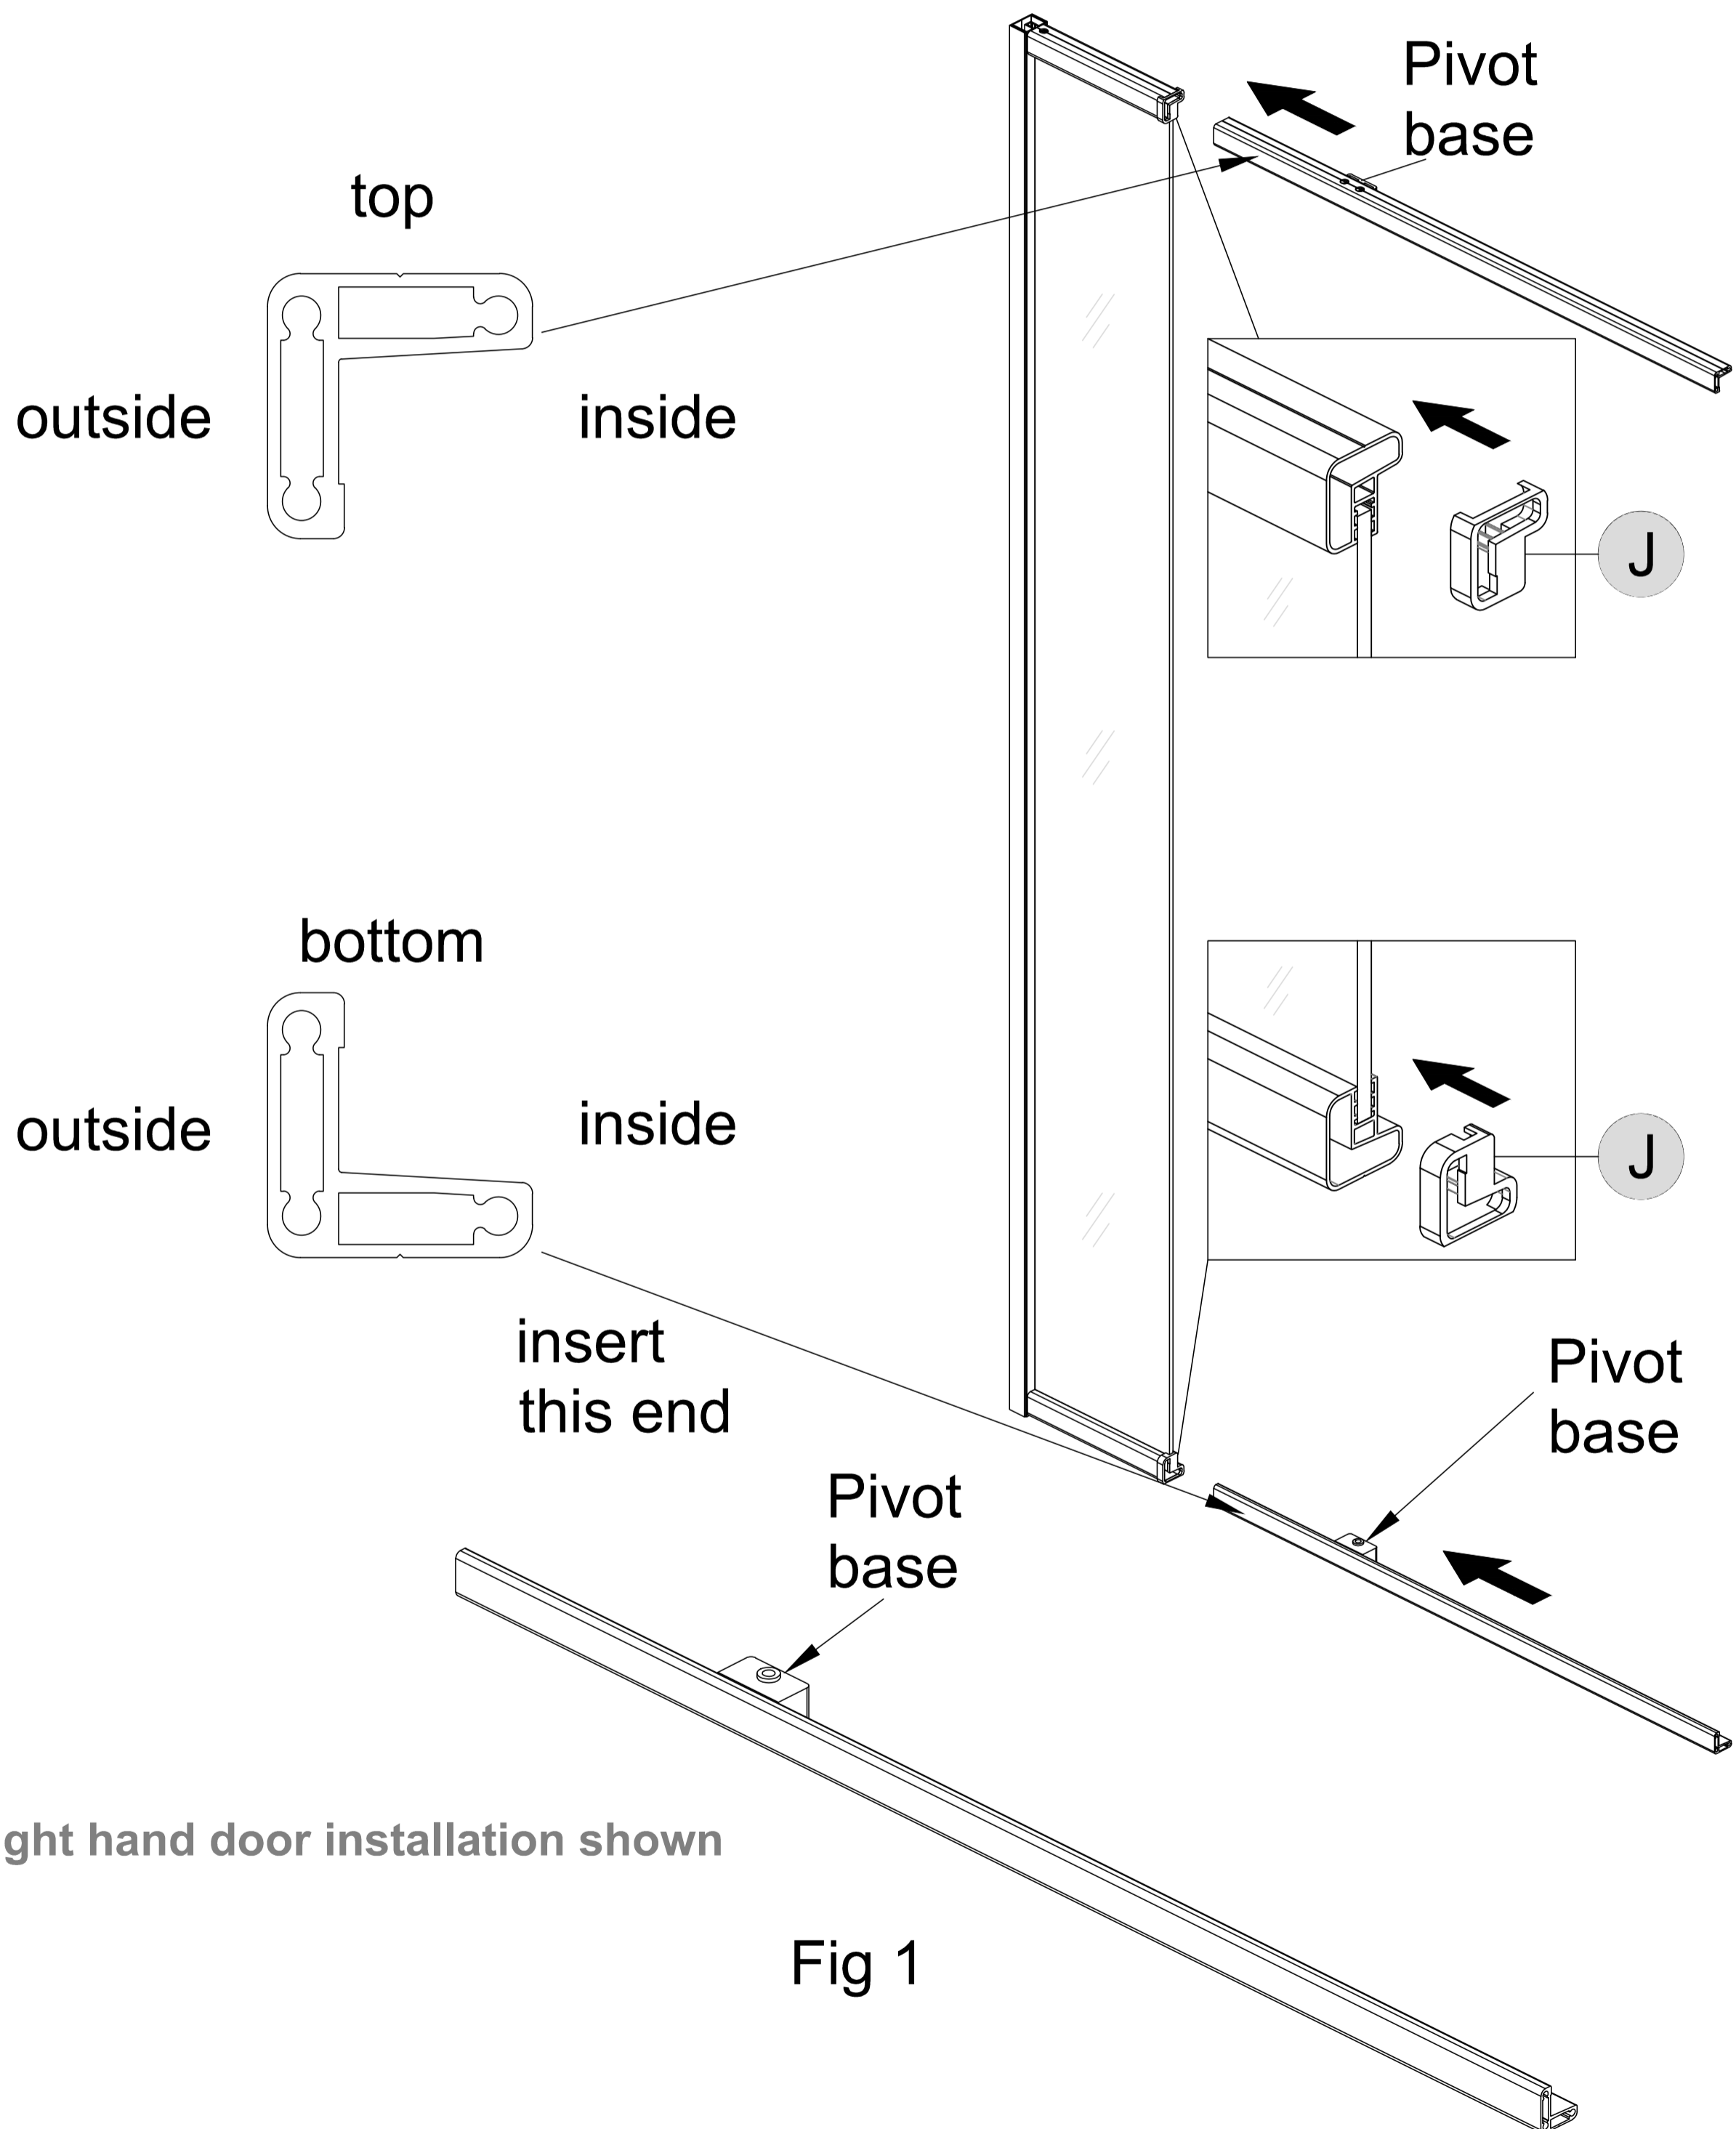

Fig 1
1. Insert the expandable rails cap (J) into the expandable rails of the **Stationary Glass (I)**.
2. Insert the **Top & Bottom Rails (A)** into the expandable rails of the **Stationary Glass (I)**. Insert the end that is closest to the pivot base. (Fig 1)